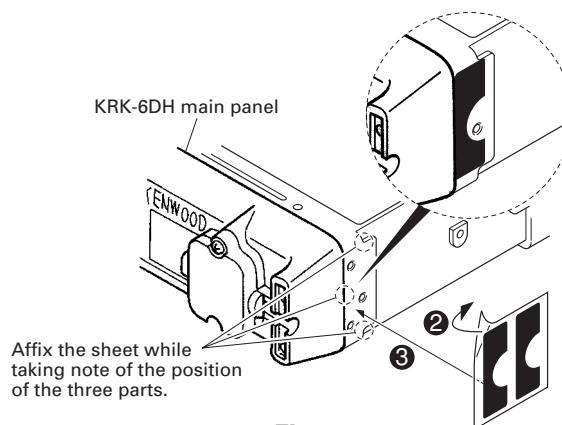

Fig. 3-1-2
4. Affixing the sheet (G11-4379-04) for the waterproof (Fig.3-1-2).
- (1) Remove the covering paper of the sheet (❷).
- (2) Affix the sheet while taking note of the position of the three parts as shown in Fig.3-1-2 (❸).